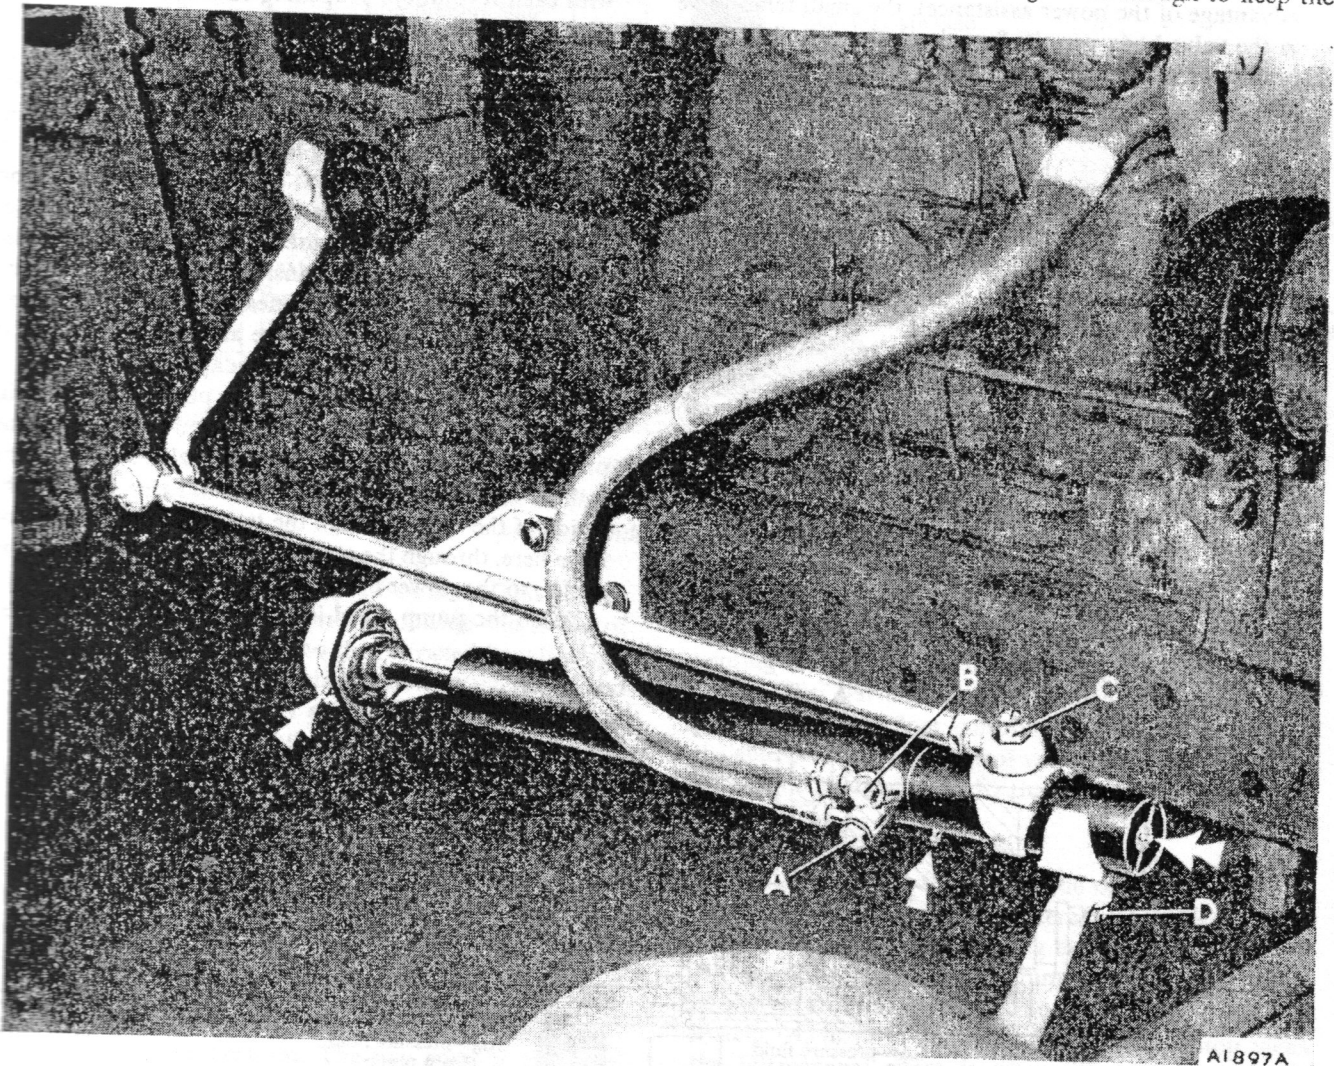

Fig. QQ.13
Movement from the steering-box drop-arm is directed via the draglink to the manual ball pin (c, Fig. QQ.13) on the power cylinder, which in turn is coupled directly to the control valve spool. Power assistance from the cylinder is directed to the steering lever on the front axle by the power ball pin (D).